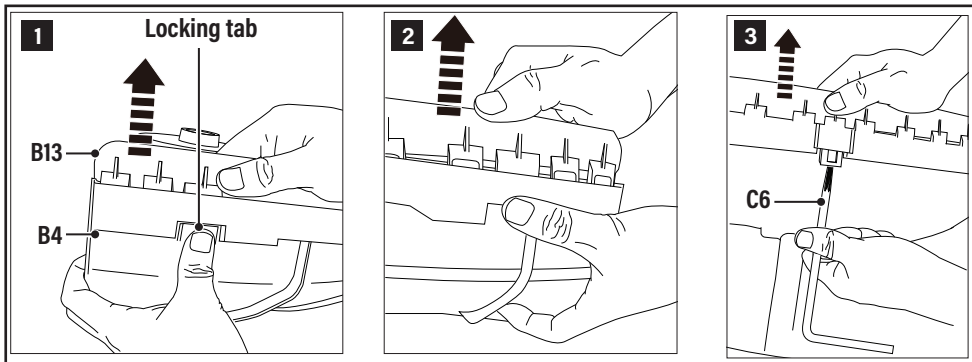

Fig. 5
1. Press the locking tabs on both sides and pull to detach both ends of the trimming guard (B13) from the cutting-attachment guard (B4) (Fig. 5, step 1, 2).
2. Insert the multi-tool 1 (C6) under the center buckle to disengage it and remove the multi-tool 1 (Fig. 5, step 3).